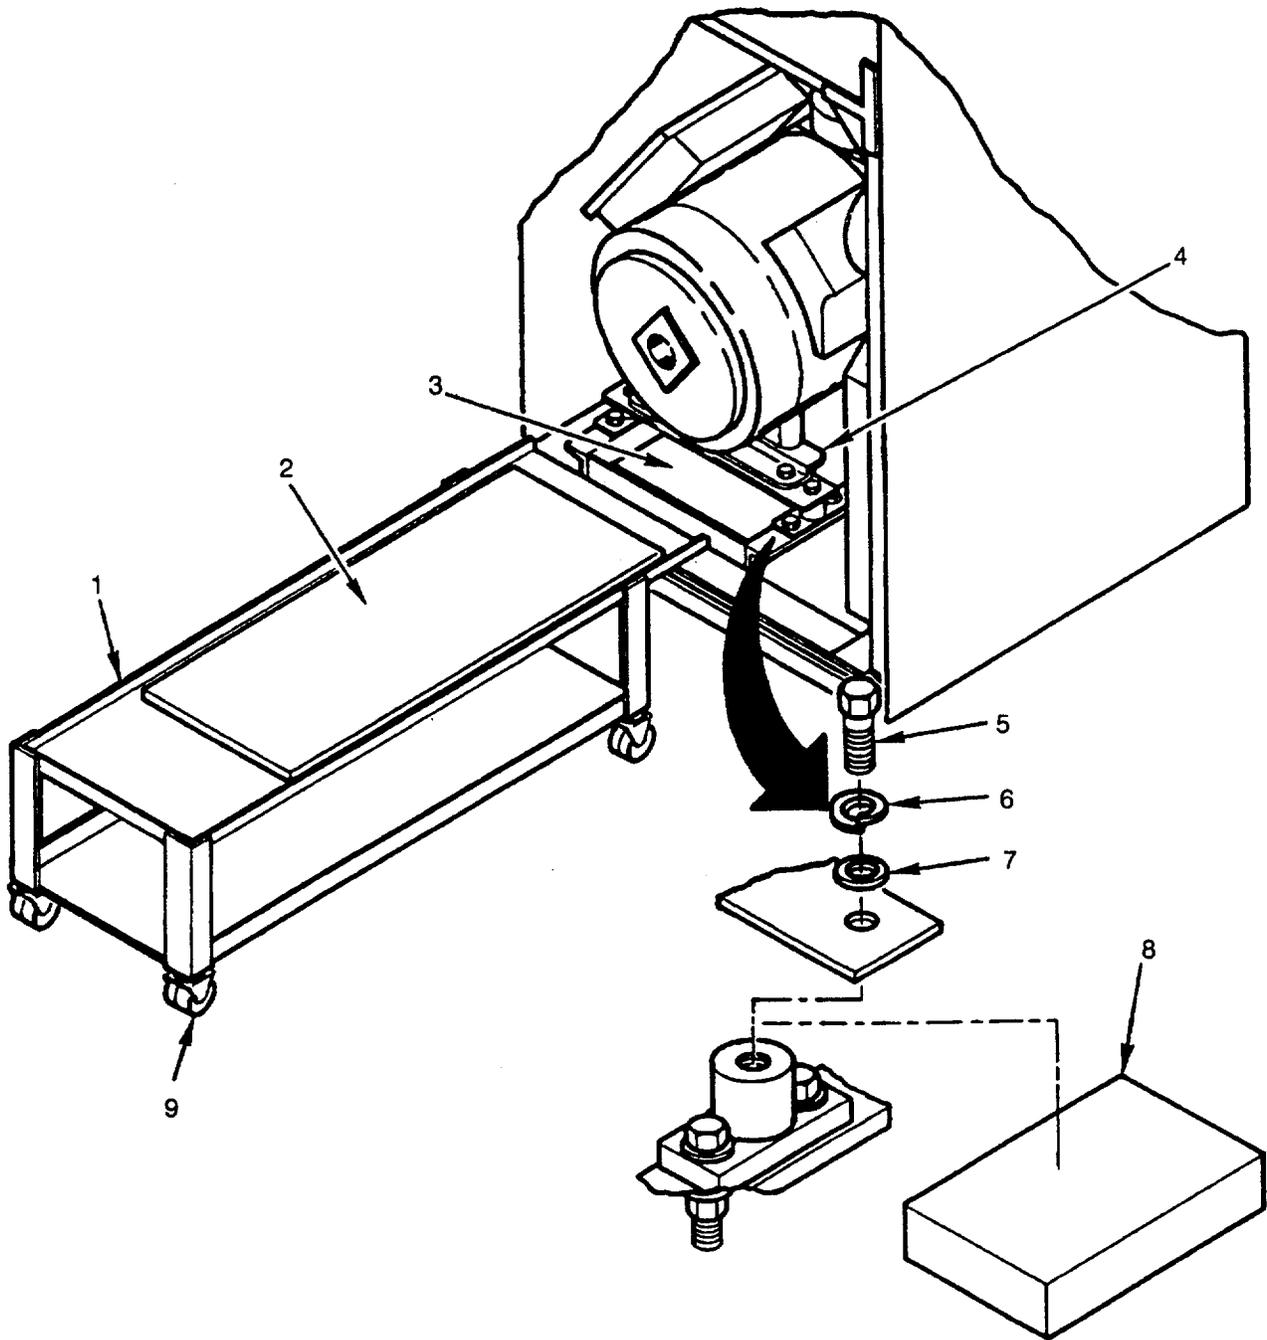

Figure. 5-36. Compressor
9. Remove two rear mounting bolts (5), lockwasher (6), and flat washer (7) (see Figure 5-36).
10. Loosen two front mounting bolts (5).